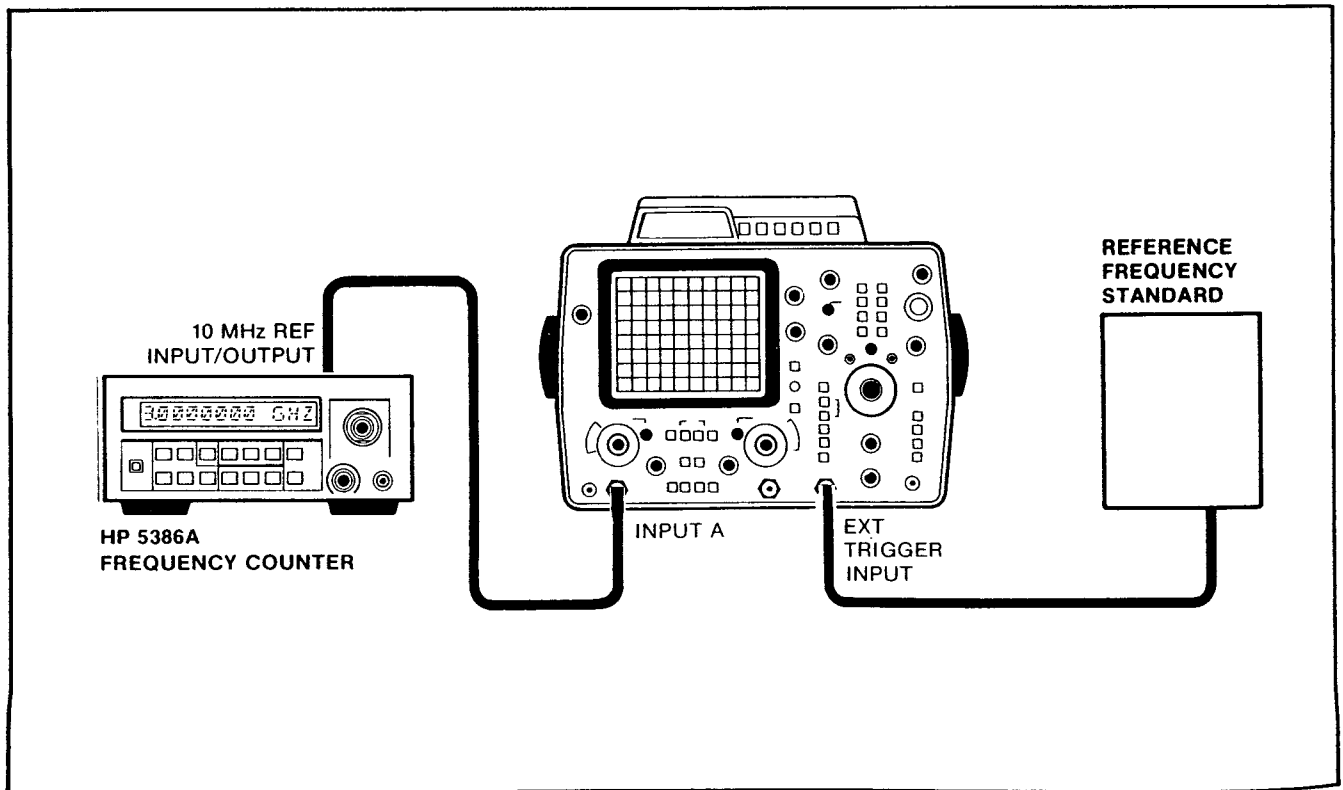

Figure 5-4. TCXO and Oven Oscillator Test Setup
a. Connect a house standard (reference frequency) to the EXT TRIGGER input of an HP 1740A oscilloscope as shown in Figure 5-4. Set the HP 1740A oscilloscope to EXT (trigger).
b. Connect a house standard (reference frequency) to Channel A of the HP 5386A as shown in Figure 5-4.
c. Connect a house standard (reference frequency) to the EXT TRIGGER input of an HP 1740A oscilloscope as shown in Figure 5-4. Set the 1740A Oscilloscope to External Trigger.
d. Connect the HP 5386A rear panel 10 MHz REFERENCE IN OUT to the Channel A input of the HP 1740A oscilloscope as shown in Figure 5-4.